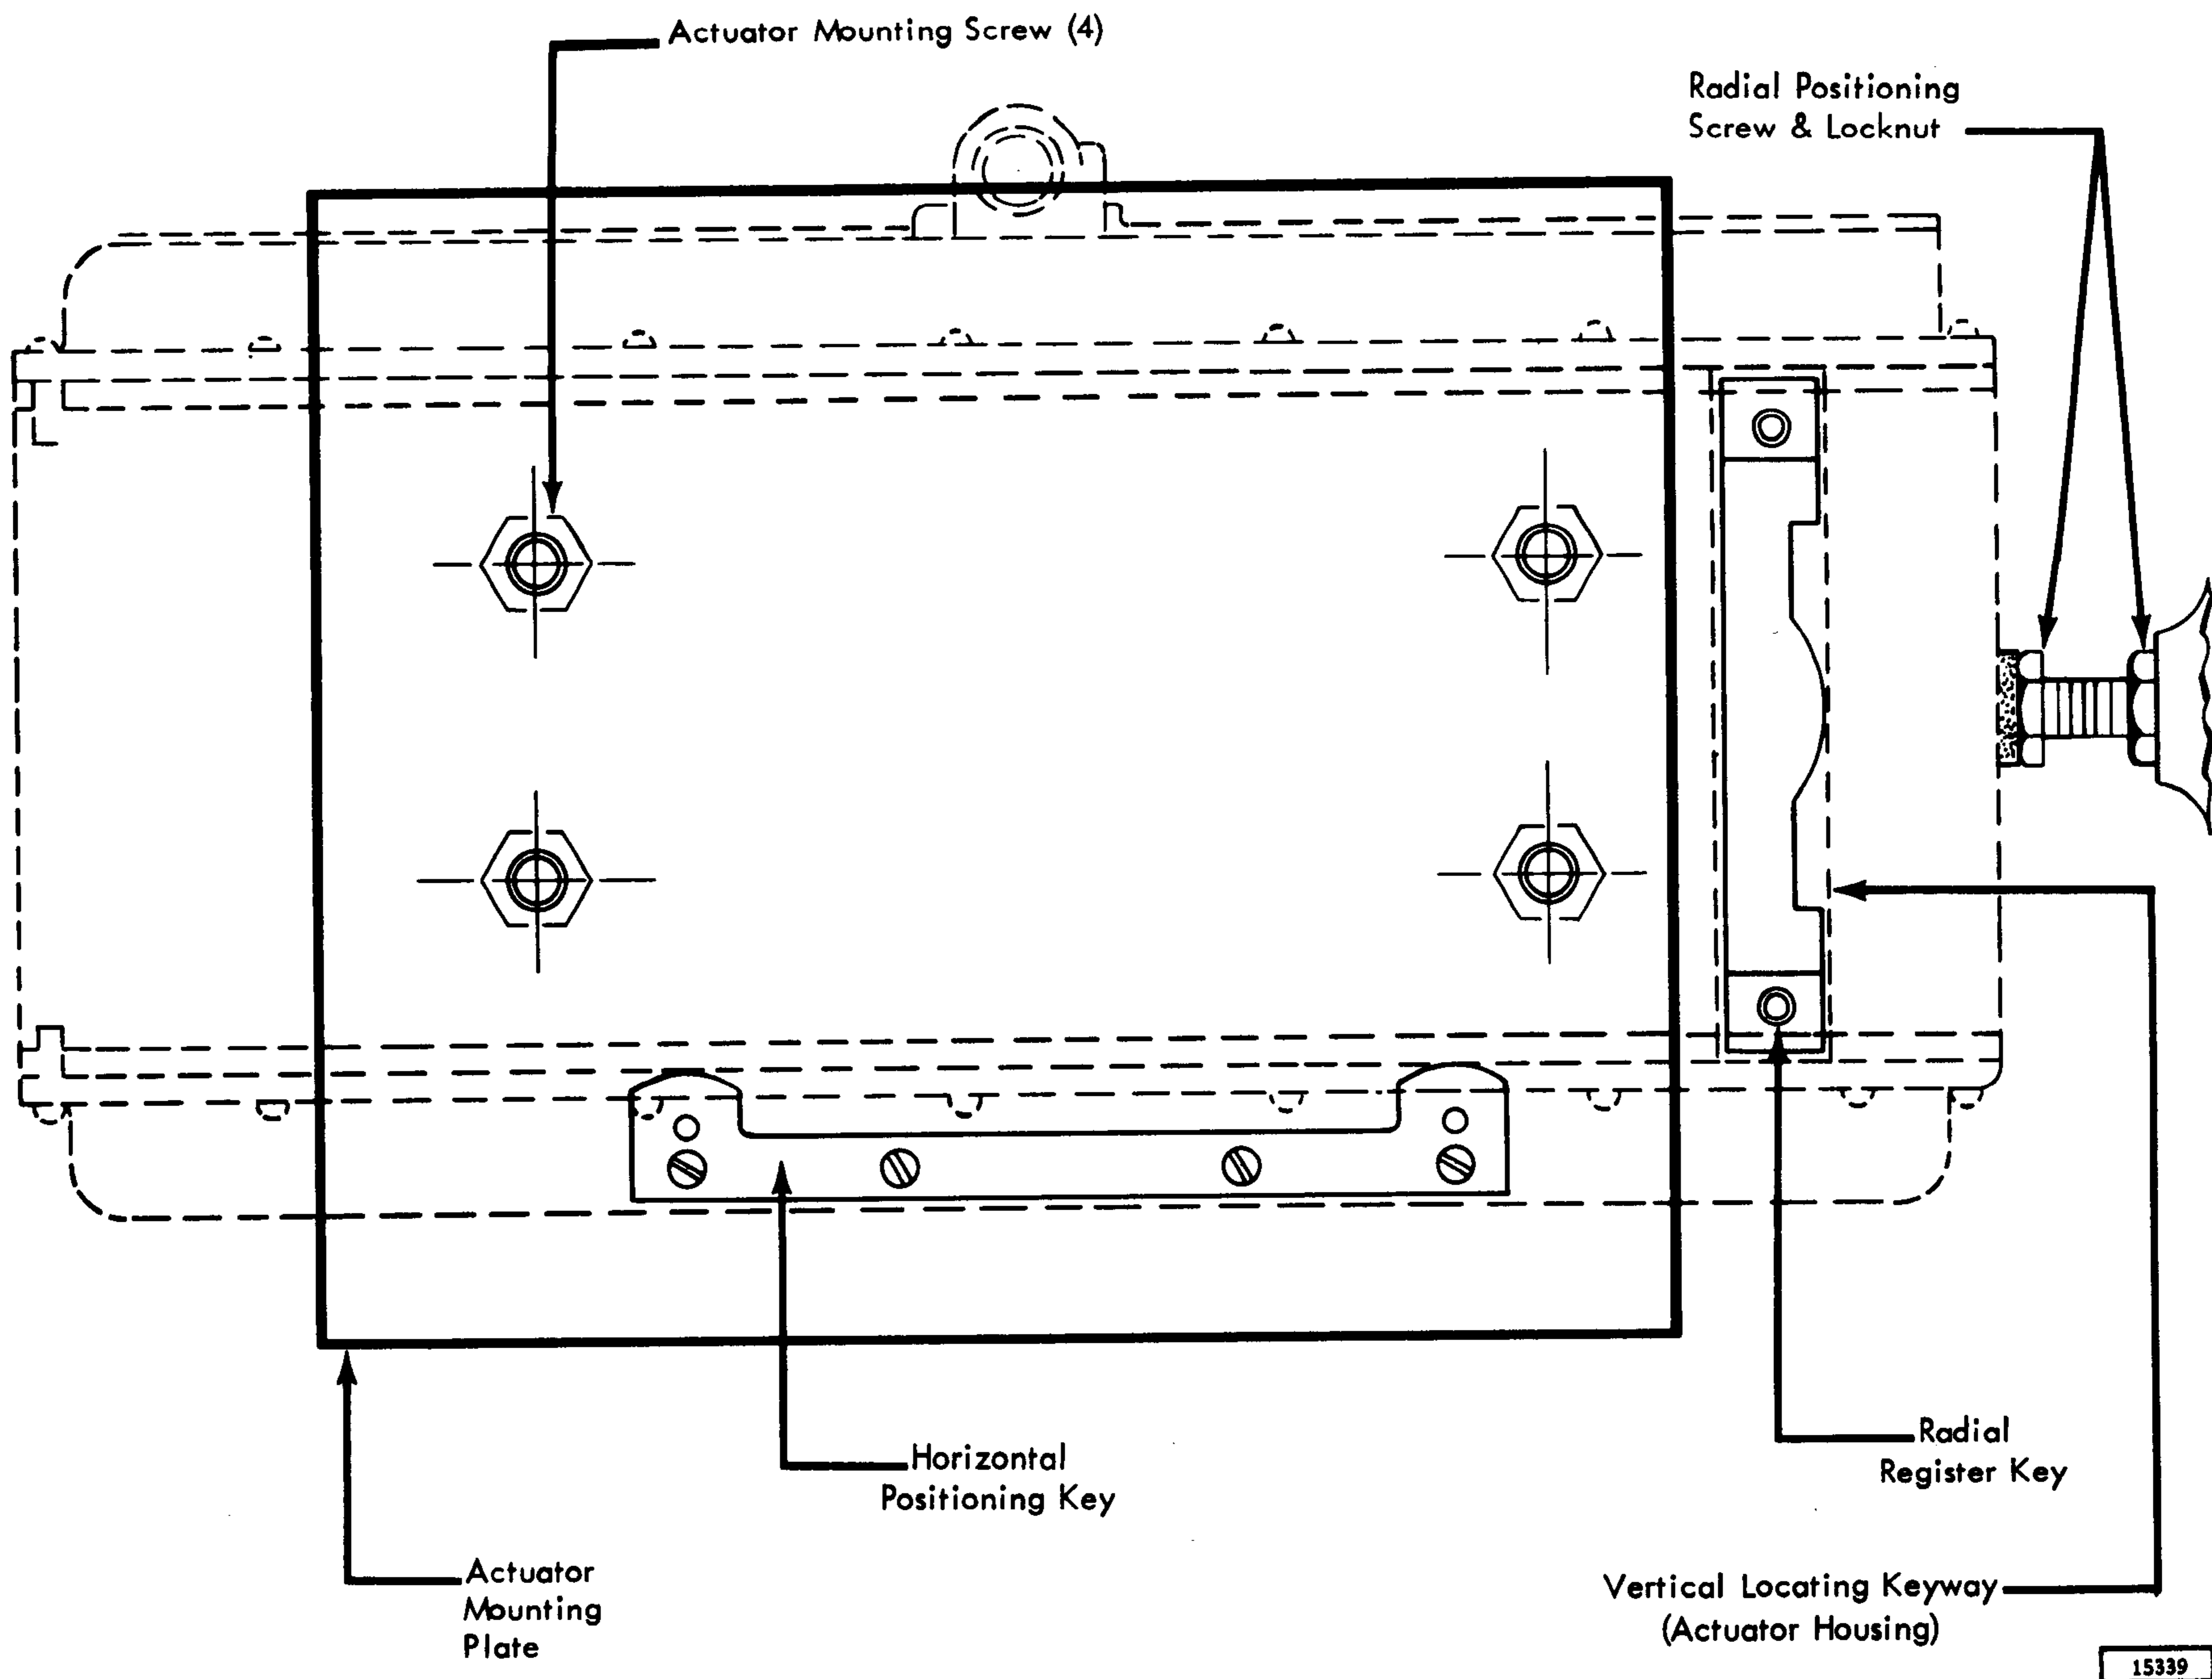

Figure 4-28. Radial and Horizontal Positioning Keys
4.11.3 Removal (Figure 4-28)
NOTE: Do not remove protective caps of new actuator until ready for connection to hydraulic lines. The radial positioning screw should be withdrawn partly into strut (Figure 4-28).